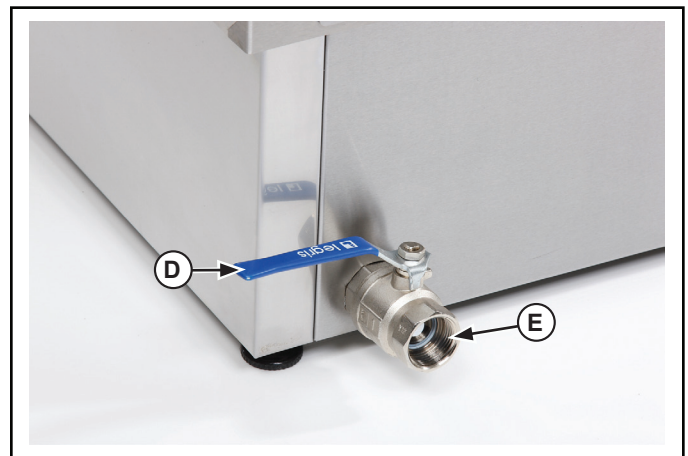

Figure 2. Drain and Drain Lever (shown in the "Closed Position").
- Check that the drain valve lever (D) is in the closed position. See Figure 2.
- When finished using the unit. Turn the temperature control (A) to the "0" setting and unplug unit. When removing hot food containers from unit use gloves, mitts or pot holders to protect hands.
- Place a suitable container directly under the drain valve (E). See Figure 2. Turn the drain valve (D) to the open position monitoring the flow of liquid going into the container. Use caution to avoid spills that may create a slippery condition. Turn drain valve (D) to the closed position before the container is full. Dispose of the drained water. This procedure may need to be repeated.
- Turn drain valve (D) to the closed position.